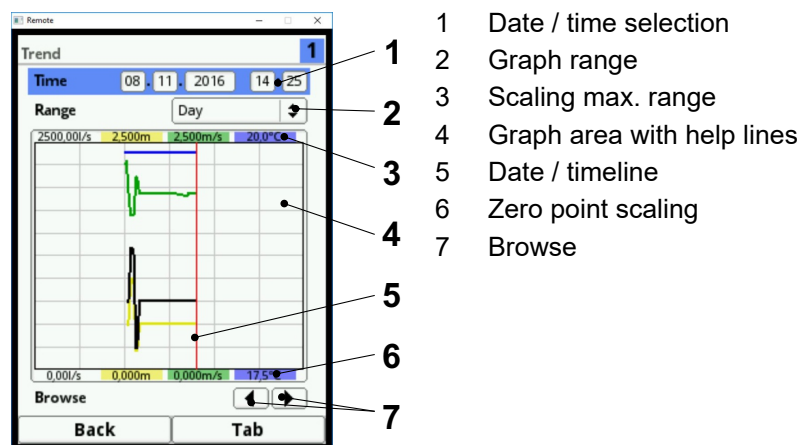

Fig. 24-2 Trend graph screen
The **Date/Time Selection** (Fig. 24-2 Pos. 1) can be found in the top area of the main screen. The line is highlighted blue and hence active.
5. Confirm your entry with the right function key. Date and time will be accepted. The readings are shown in the display depending on the date and the period selected (Fig. 24-2 Pos. 2). The vertical red line (Fig. 24-2 Pos. 5) marks the selected point of time (date and time).
↩ Modify the setting using the >Range< section (see Fig. 24-2 Pos. 2).